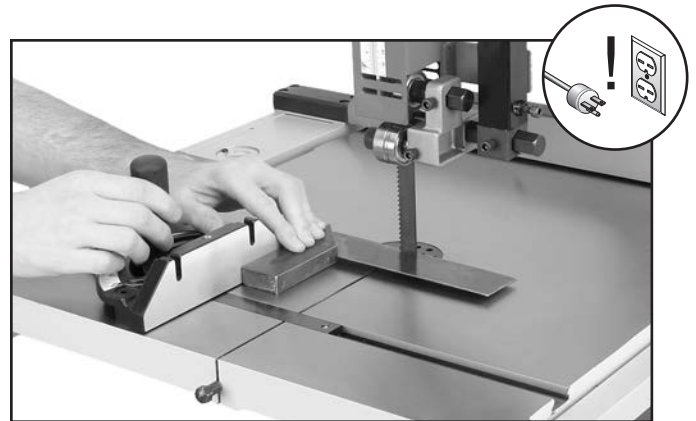

Figure 29. Squaring miter gauge to blade.
2. Place a square on the table so one edge is touching the blade face and the other edge is touching the miter gauge (see **Figure 29**).